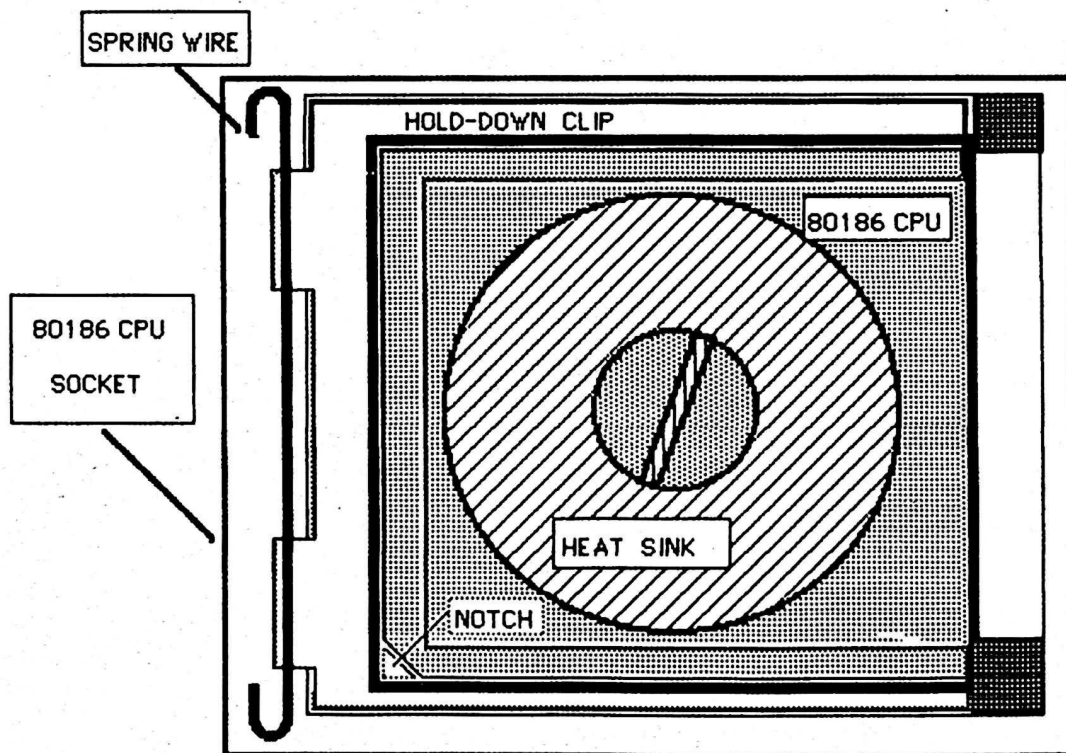

Figure 4-2. 80186 CPU Socket
3. Make sure that the 80186 CPU is properly seated into its socket. Refer to Figure 4-2 and the following procedure to remove and re-seat the CPU.